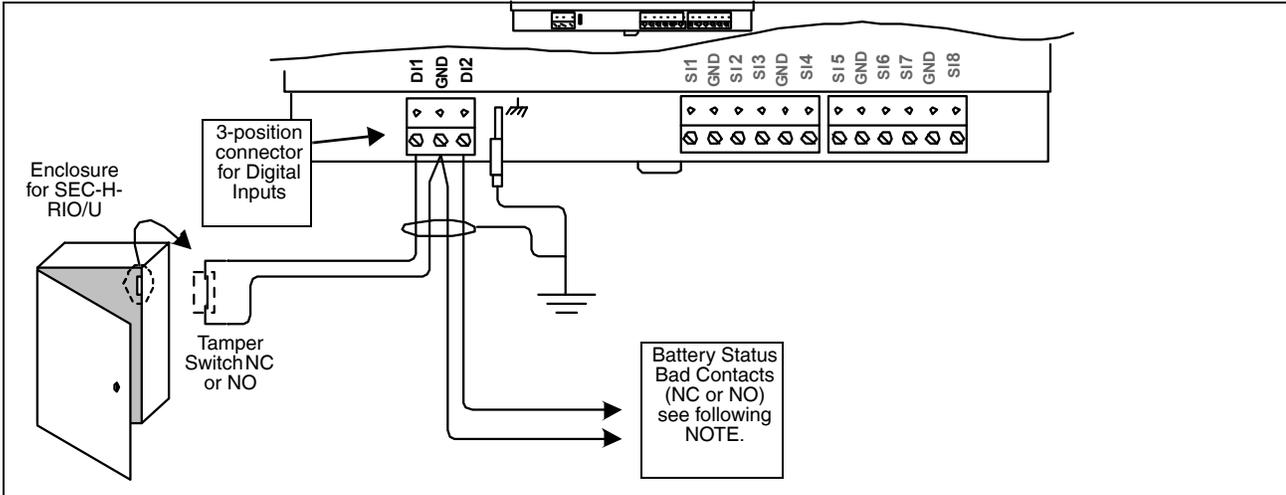

Fig. 7. Digital input wiring example to SEC-H-RIO/U module.
The SEC-H-RIO/U has two (2) digital inputs, located on a 3-position connector next to the earth grounding lug (see Fig. 7). Under the connector, terminals are labeled DI1, GND, DI2. This means when wiring, as many as *two* conductors can be landed to the common GND terminal.
Each digital input can monitor dry contacts, either normally-open (N.O.) or normally-closed (N.C.). Both inputs are *unsupervised*—no end-of-line resistors are required. Fig. 7 shows example wiring to digital inputs.
4. Digital input DI1 of at least one item (Security Controller, expansion module) in any enclosure must be wired to the enclosure's door tamper switch. See Fig. 7, page 12. If multiple WEBS-AX[®] Security Enclosures are used in the system, each door tamper switch must also be wired to DI1 of *one* of its contained expansion modules.